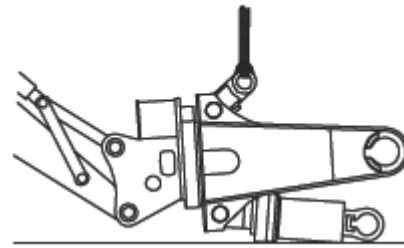

FIGURE 7-14
6. Place a lifting strap in a choke hold around the main tube of the cylinder near the head (see Figure 7-14). Use an overhead crane to hold the weight of the cylinder and remove the rear cylinder pin.